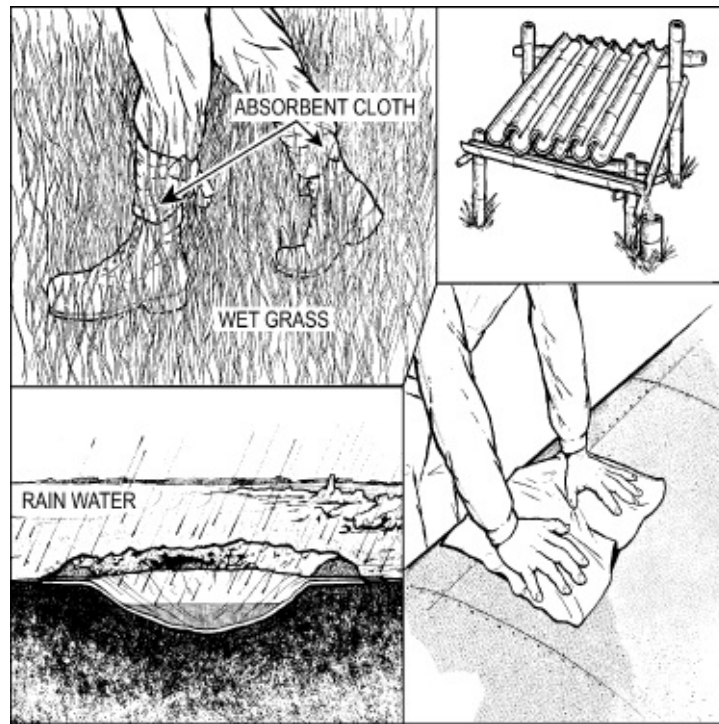
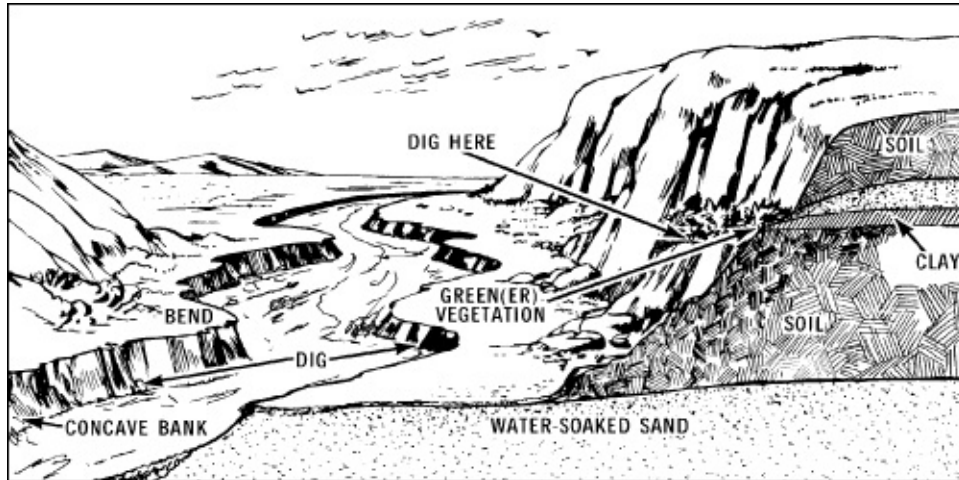

Figure 7-1. Water procurement
Figure 7-2. Water indicators
- (1) Surface water (streams, lakes, and springs).
- (2) Precipitation (rain, snow, dew, sleet) (**Figure 7-1**).
- (3) Subsurface (wells and cisterns).
- (4) Ground water (when no surface water is available) (**Figure 7-2**).